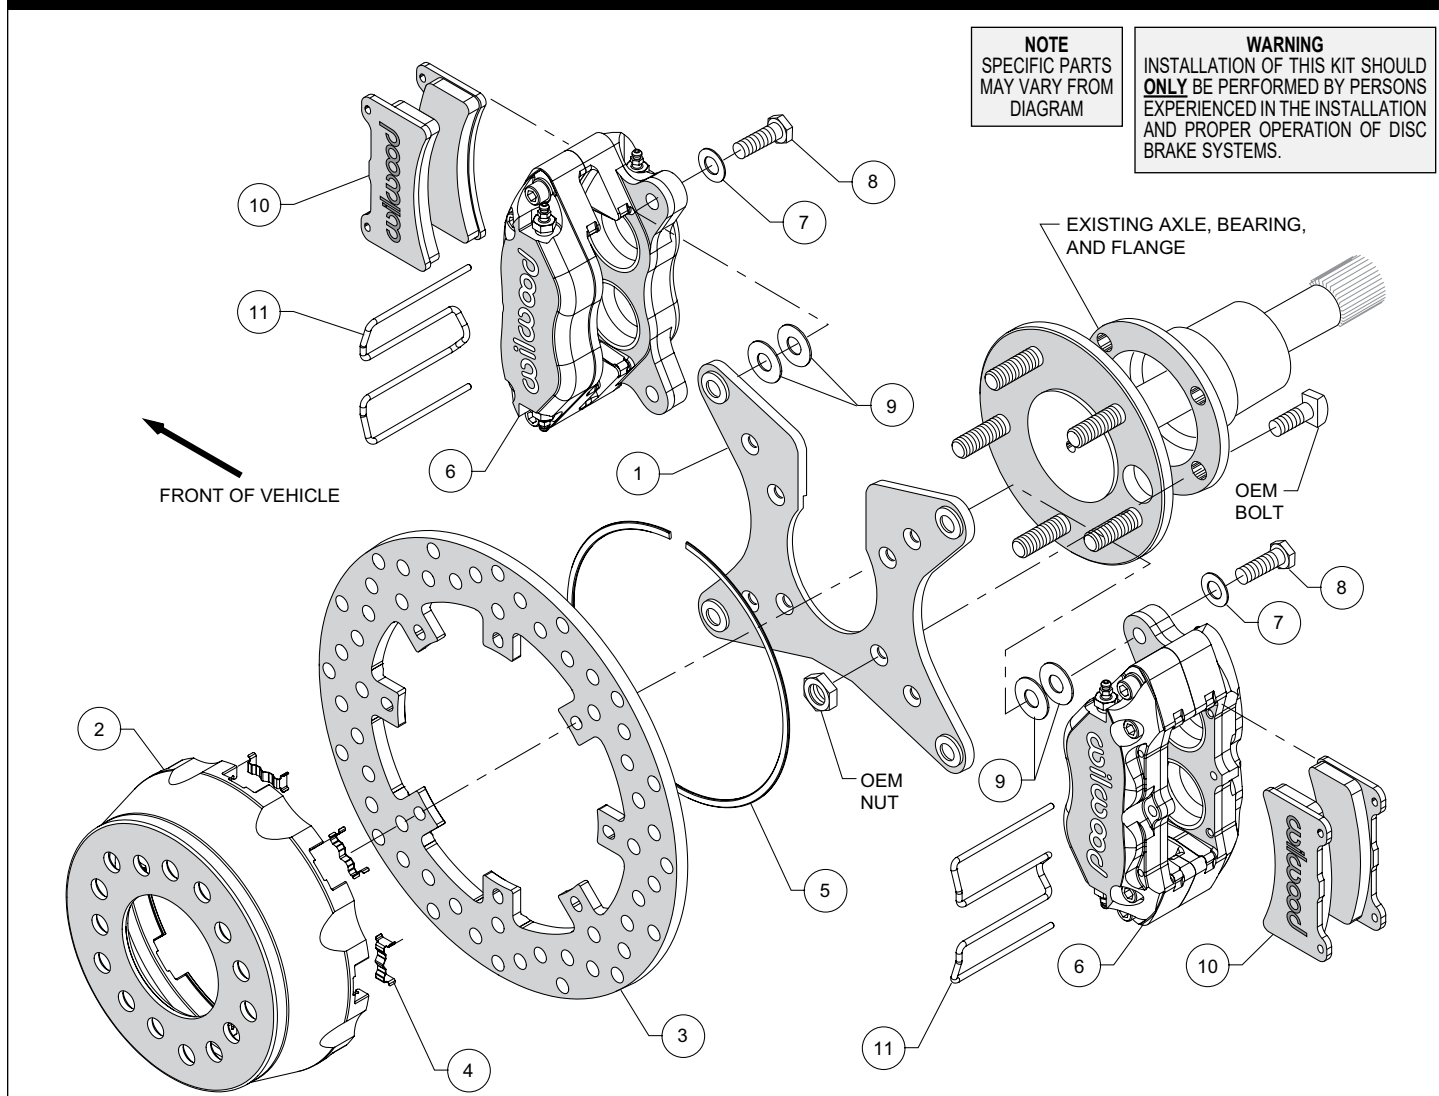

Figure 1. Typical Installation Configuration
Assembly Instructions (numbers in parenthesis refer to the parts list and Figure 1 on the preceding pages): **CAUTION:** All mounting bolts must fully engage clinch nuts. Be sure to check that all bolts are either flush or protruding through flanged side of clinch nut after shimming, Figure 5.
- Install the caliper mounting bracket (1), with the slot for the axle pointing upward, to the housing flange using the OEM bolts and nuts, as shown in Figure 1 and Photo 1. Ensure that the caliper mounting ears on the bracket are oriented fore and aft on the car, with the heads of the clinch nuts facing outboard, Photo 1. Apply red *Loctite*® 271 to the OEM bolt threads and torque to OEM specifications.
- Insert the dynamic mount wear plates (4) into the slots in the hat (2) making sure the tabs snap in place, Photo 2. Orient the rotor (3) as shown in Figure 1 and Photo 3, with the flush mount tab side facing the hat. Attach the rotor to the hat using snap ring (5) by pushing down on the rotor and installing the ring into the groove in the hat, as shown in Photo 4. Ensure that the ring is fully engaged in the groove.
- Align the correct hole pattern in the hat (2) with the axle stud pattern and slide the hat/rotor assembly onto the axle hub. **NOTE:** The hat must fit flush against the axle flange or excessive rotor run out may result. Install three lug nuts (finger tight) to keep the hat/rotor in place while continuing with the installation. **NOTE:** Some OEM and aftermarket axles come with stud sizes larger than 0.50" diameter. Verify stud size, and if necessary, have a qualified machine shop drill the hats to the correct size.
- NOTE:** Please reference the caution statement at the beginning of the assembly instructions. Mount one caliper (6) onto the mounting bracket (1) using bolts (8) and washers (7), as shown in Figure 1. Initially place two .035" thick shims (9) on each bolt between the caliper and the bracket, Photo 5. Temporarily tighten the mounting bolts and view the rotor (3) through the top opening of caliper. The rotor should be centered in the caliper, Photo 6. If not, adjust the caliper by adding or subtracting shims between the bracket and the caliper. Always use the same amount of shims on each of the two mounting bolts. **NOTE:** The end of each bolt must be flush with or slightly protruding from the head of the clinch nut. If necessary, place spare shims between washer and caliper mounting ear to achieve the proper clinch nut engagement, as shown in Figure 5.